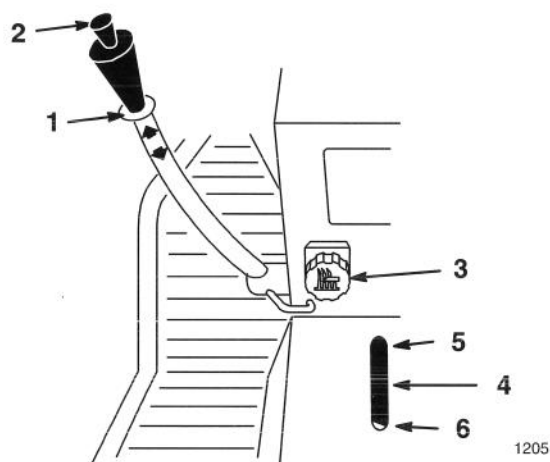

Figure 10
The attachment lift lever (Fig. 10) is used to raise and lower various attachments.
The Dial-A-Height control (Fig. 10) is used to limit the downward travel of the attachment. The Dial-A-Height knob is rotated to change the location of this stop, up or down.
1. Raise the attachment lift lever: Refer to Raising Attachments. In the raised position the Dial-A-Height knob (Fig. 10) can be rotated to change the stop location. Turn right to raise and left to lower the height of the attachment.
2. The Dial-A-Height indicator (Fig. 10) will show the change, high to low, in attachment lift height as adjustment is made.